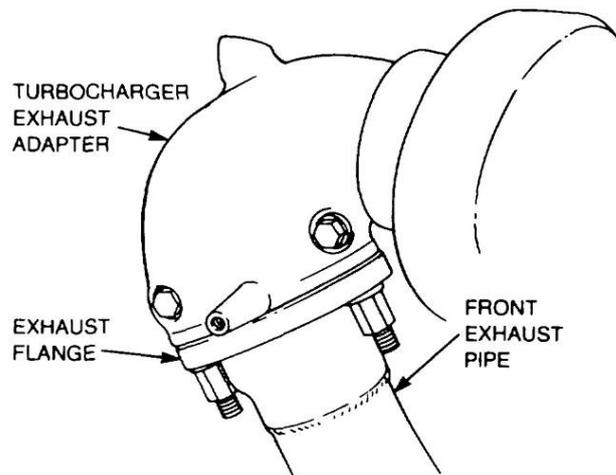

Figure 6 Removal of the Front Exhaust Pipe
- m. Remove the nuts securing the front exhaust pipe to the turbocharger exhaust adaptor flange, (Figure 6) discard the sealing ring if it is damaged.